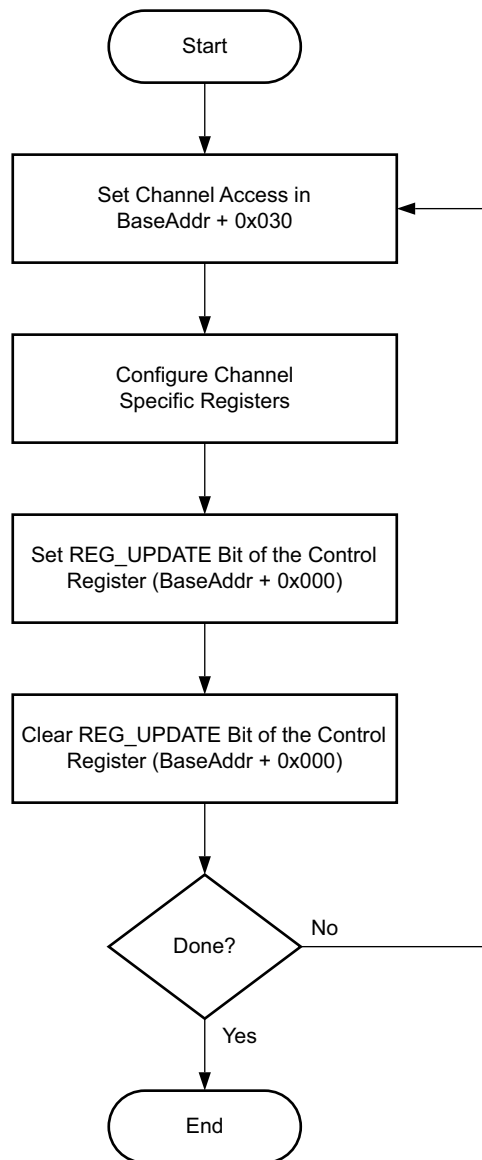

Figure 5: Channel Register Configuration Flow Chart
4. Repeat step 1 through step 3 for each additional channel or register. See Figure 5.
4. Repeat step 1 through step 3 for each additional channel. See Figure 5, page 7.